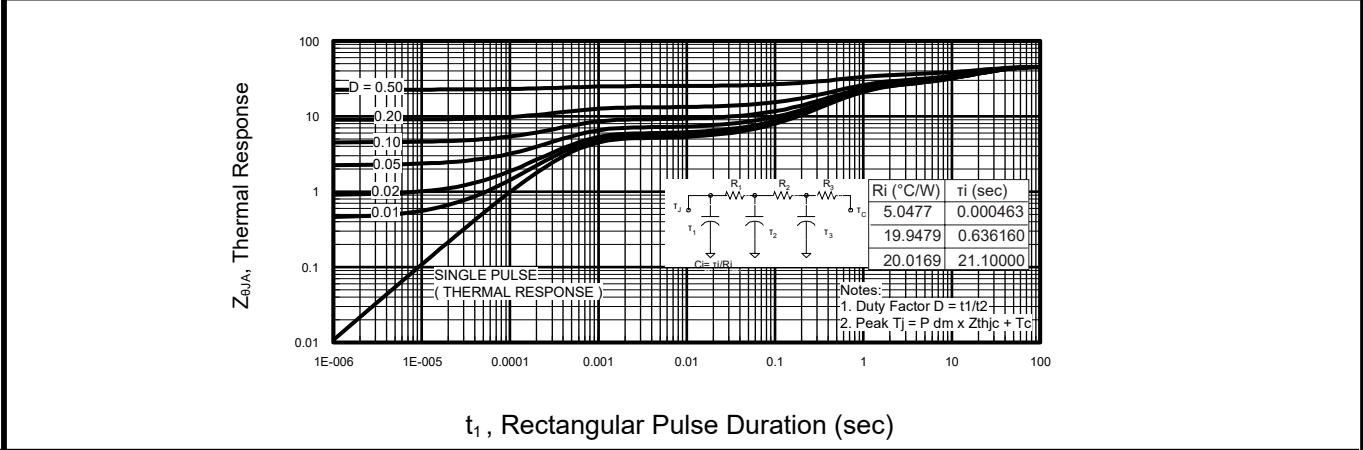
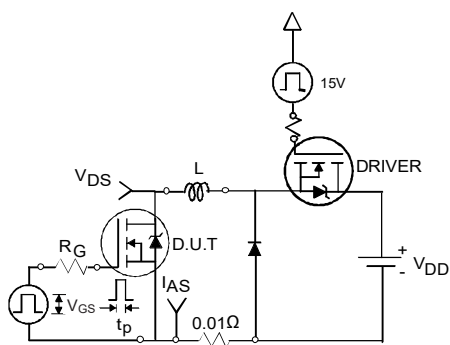

Figure 14: Maximum Effective Transient Thermal Impedance, Junction-to-Ambient
Figure 16a: Unclamped Inductive Test Circuit
- ① Repetitive rating; pulse width limited by max. junction temperature(See fig. 14).
- ② Limited by T_{Jmax} , starting $T_J=25^\circ\text{C}$, $L=2.8\text{mH}$, $R_G=25\Omega$, $I_{AS}=3.1\text{A}$, $V_{GS}=10\text{V}$. Part not recommended for use above this value.
- ③ Pulse width $\leq 1\text{ms}$; duty cycle $\leq 2\%$.
- ④ C_{oss} eff. is a fixed capacitance that gives the same charging time as C_{oss} while V_{DS} is rising from 0 to 80% V_{DSS} .
- ⑤ Limited by T_{Jmax} , see Fig.16a, 16b, 13, 15 for typical repetitive avalanche performance.
- ⑥ This value determined from sample failure population. 100% tested to this value in production.
- ⑦ When mounted on 1 inch square copper board.
- ⑧ When mounted on FR-4 board using minimum recommended footprint.